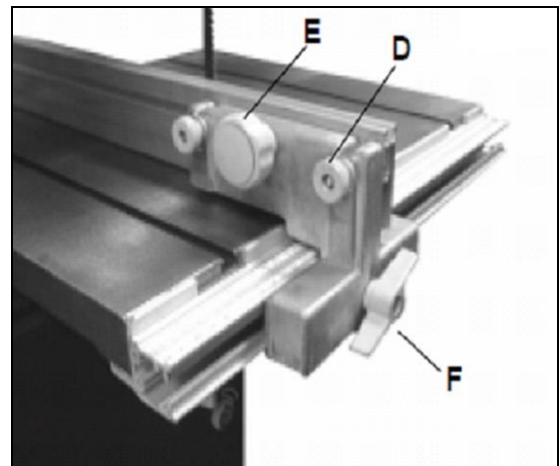

Fig 8
Fit the rip fence extrusion (C) to the rip fence casting (B) with the two small knurled knobs and M6 x 40 coach bolts (D) and use the large knob (E) for adjustment and to lock in position. (See Fig 8).